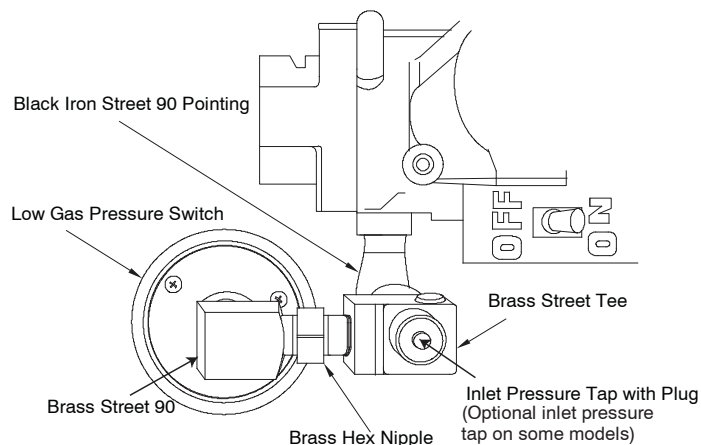
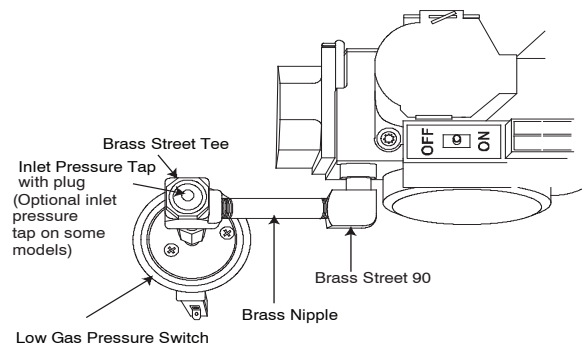

Fig. 18 – LGPS for 14-3/16 Casing or when vent passes between inducer and burner assembly
Fig. 19 – LGPS for casing wider than 14-3/16 and vent does not pass between inducer and burner assembly
If the vent pipe passes between the inducer and burner assembly, or the furnace is a 14 3/16-in. wide casing. The switch is installed as shown in Fig. 18.
1. Remove low gas pressure switch, brass street 90_ elbow, brass hex nipple, brass tee and black iron street 90_ elbow from the gas valve inlet pressure tap, see Fig. 18.
If the vent pipe does not pass between the inducer and burner assembly, or the furnace is wider than a 14 3/16-in. wide casing. The switch is installed as shown in Fig. 19.
1. Remove Low Gas Pressure Switch (LGPS), brass street tee, brass nipple and brass street 90° elbow from the gas valve inlet pressure tap, see Fig. 19.
1. On some models, remove 1/8-in. (3 mm) pipe plug from inlet pressure tap (see Fig. 18 and Fig. 19) and insert pressure tap. Or, on some models, loosen set screw on inlet tower pressure tap no more than one full turn with the 3/32-in. hex wrench, see Fig. 11 or Fig. 12.